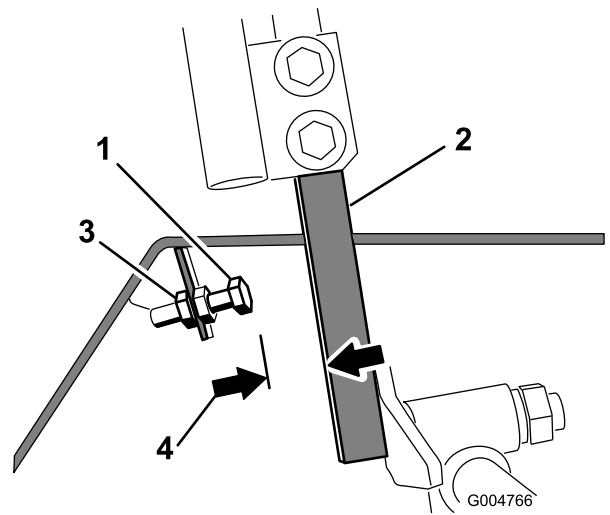

Figure 92
4. Loosen the jam nut on the stop bolt for a control lever (Figure 92).